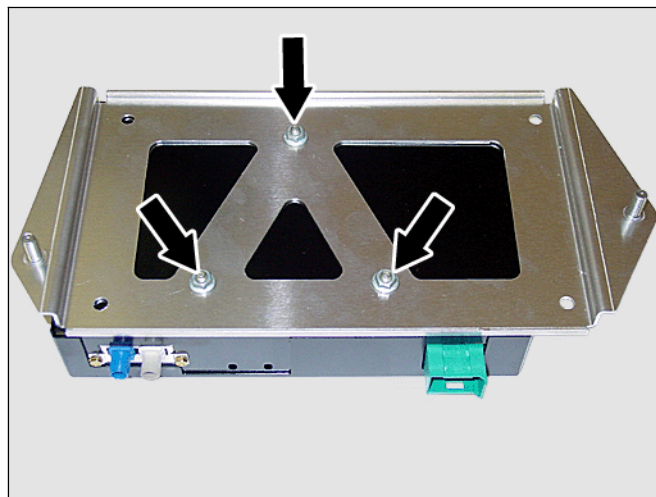

Figure 12
10. Mount the SDAR control module to the bracket with three kit-included M5 hex nuts (Figure 12).